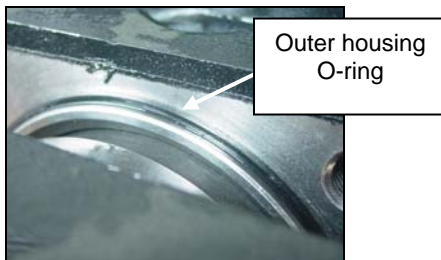

Figure 16 Check O-ring
15. Check the outer housing O-ring for wear or damage such as nicks, fraying, or cuts. (Figure 16) Replace the o-ring if it is damaged.